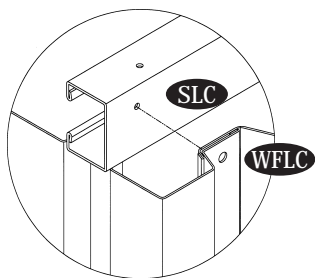

Fig.1
9. Place the sliding channel left (SLC) on top of the wall panel (WFLC) from inside. See the position in fig1. Line up the holes with wall panel use (S1) screws with washers to fix. See fig. 2